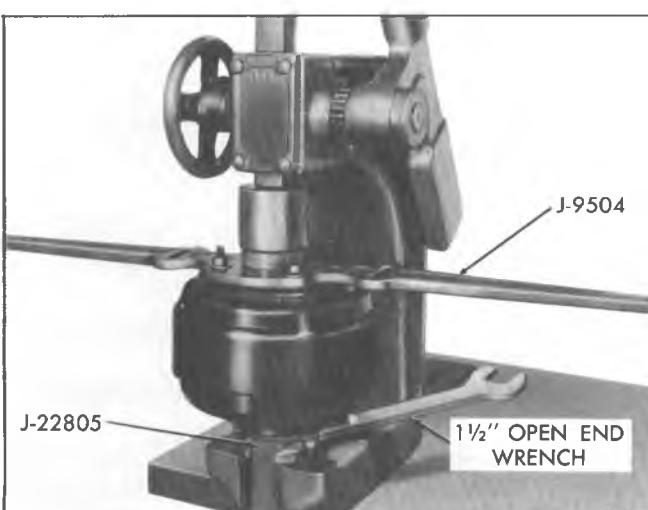

Fig. 5-4B--Holding and Separating Housings Using J-22805 and J-9504 in Arbor Press
an arbor press with rear housing up and secure to plate of press by a suitable means of holding Tool J-22805 (fig. 5-4B). By using a 1-1/2" open end wrench on Tool J-22805 and allowing unit to turn against back of arbor press, press will hold unit from turning.
13. Place Spanner Wrench J-9504 over studs on rear shell (fig. 5-4B). Use three washers and nuts to attach wrench to housing. Use a suitable piece of pipe of approximately two inches I.D. and approximately three inches in length. Place over plastic diaphragm plate hub. Place a piece of flat stock steel over end of pipe and press rear housing down far enough to relieve tension of diaphragm rubber lip and spring.
on arbor press plate by a suitable means (fig. 5-4B).